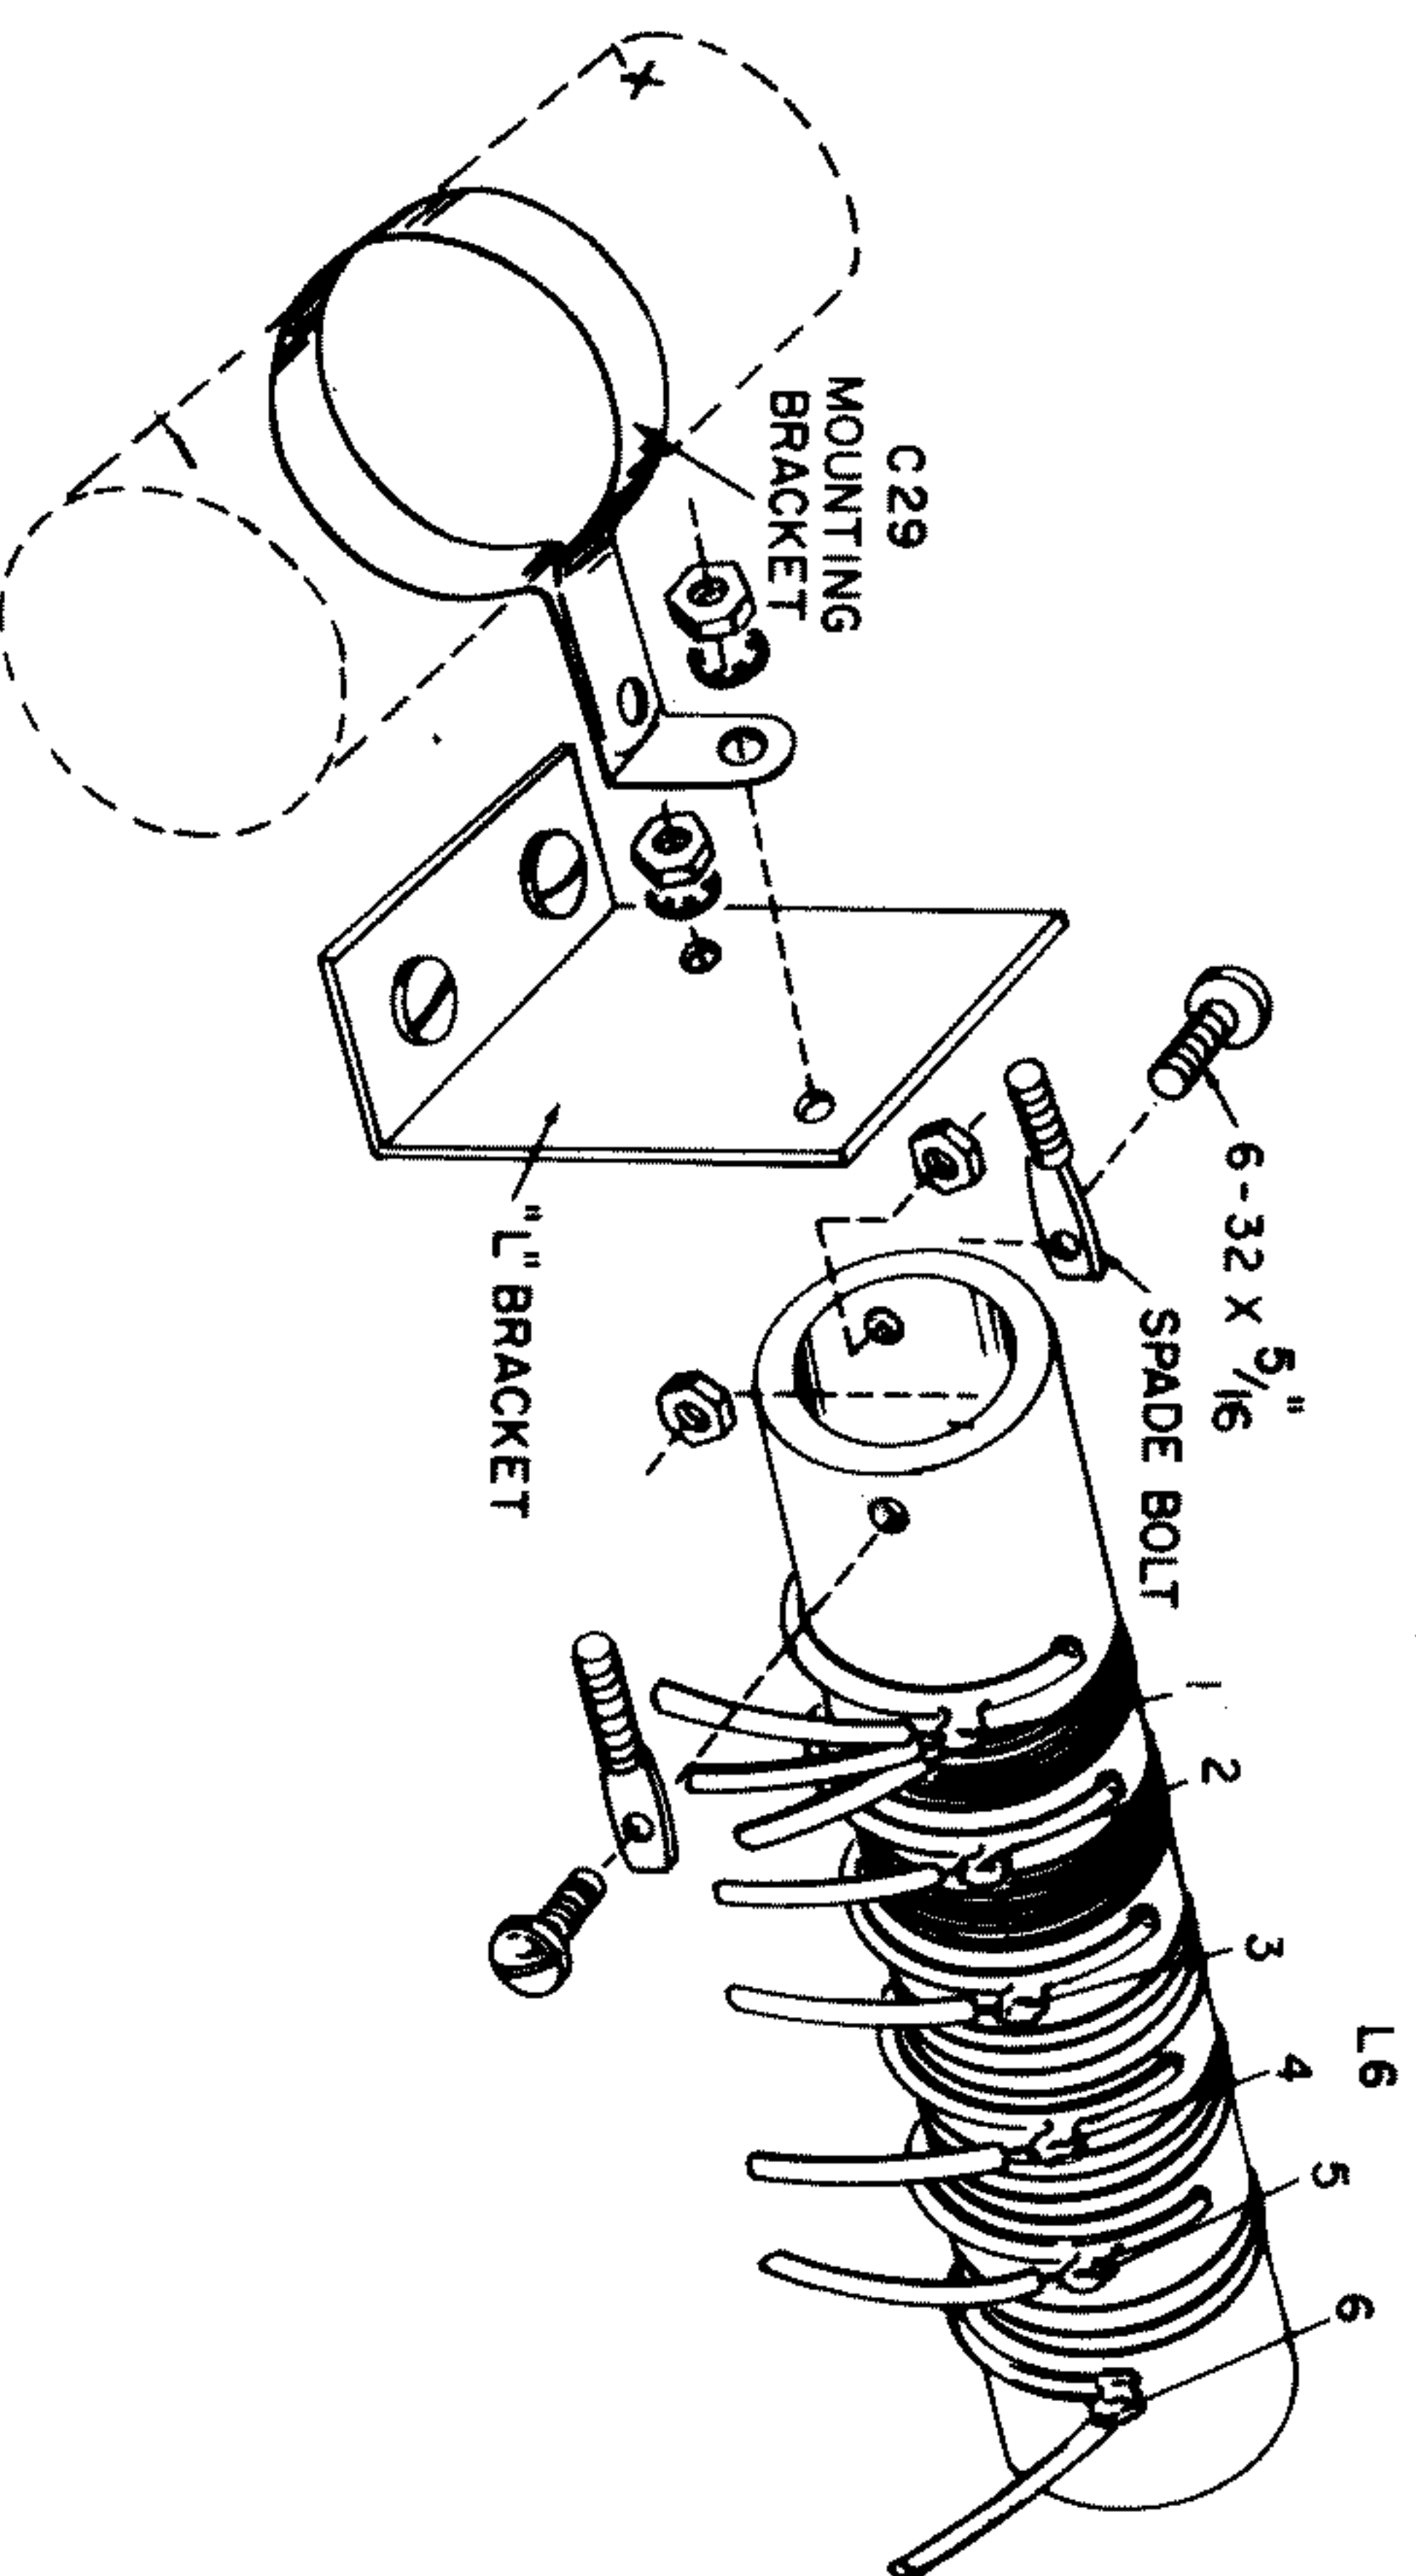

FIGURE 13
SEE FIGURE 13
- ☒ Fasten spade bolts to ceramic form of L6. See Figure 13. Note position of spade bolts. Use 6-32 $\times$ $\frac{5}{16}$ " screws and nuts. Insert screw through hole in spade bolts, then through hole in ceramic coil form.
- ☒ Mount L6 and C29 (20 μ f, 600V capacitor) on "L" bracket. See Figure 13. Note position of terminals on L6. They should point to rear of chassis. Insert spade bolts in holes in "L" bracket. Put lockwasher and nut on bolt nearer C16 and tighten nut securely. Note angle of clamp on C29. The red lead should point to C16. Put C29 bracket over other spade bolt. Use lockwasher and nut, and tighten.